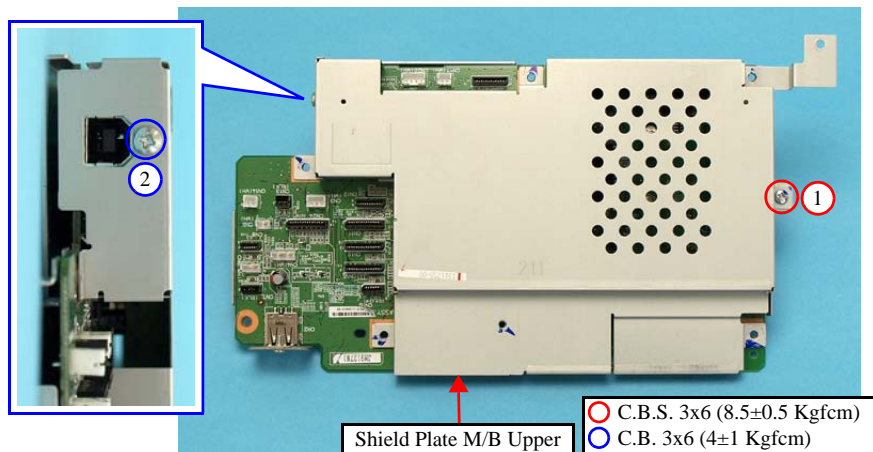

Figure 8-15. Removing the Main Board (1)
- When installing the Shield Plate M/B Upper, tighten the screw in the order given in Fig. 8-15.